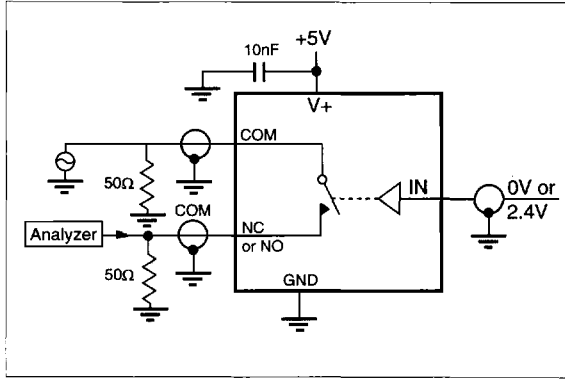

Figure 3. Off Isolation
7. Off Isolation =  $20 \log_{10} [V_{COM} / (V_{NO} \text{ or } V_{NC})]$ . See figure 3.